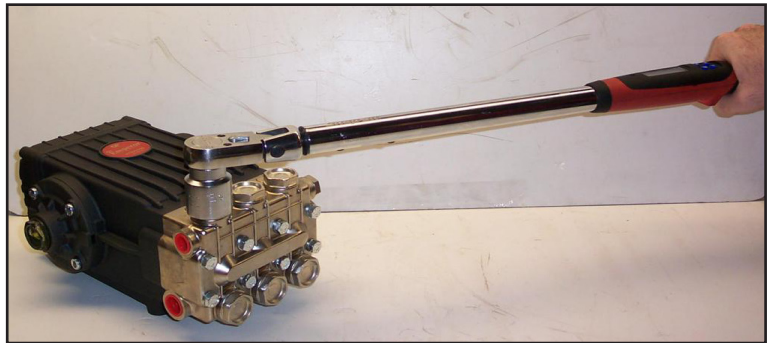

Figure 5-5. Replace Valve Cap and Torque to 95 ft. lbs. (13 m kgs)
9. Replace valve cap and torque to 95 ft. lbs.(13 m kgs) see Figure 5-5).